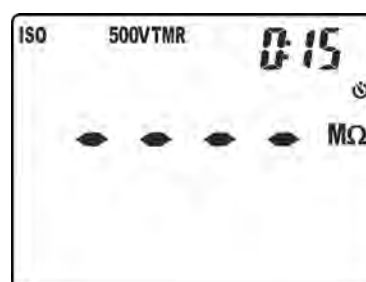

Fig. 20: Setting the measuring time in TMR mode
5. Press keys **▼/⚡** or **▲/ZERO** to select the measuring time (timer) choosing among the options: **15s, 30s, 1min, 5min, 10min**. Please note the value in the top part of the display on the right (see Fig. 20).
5. Press keys **▼/⚡** or **▲/ZERO** to select the measuring time (timer) choosing among the options: **1min** (for DAR measurement) or **10min** (for PI measurement). Please note the value in the top part of the display on the right (see Fig. 20).